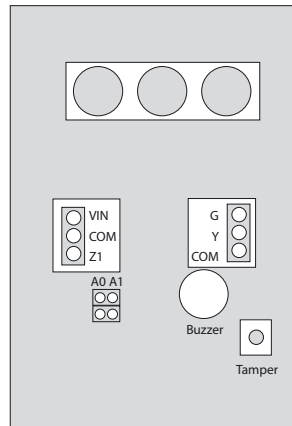

Fig. No. 2
**ATTENTION!** Before fixing the keyboard into the holder please, make sure that the tamper button is properly pressed (see Fig. No. 2).